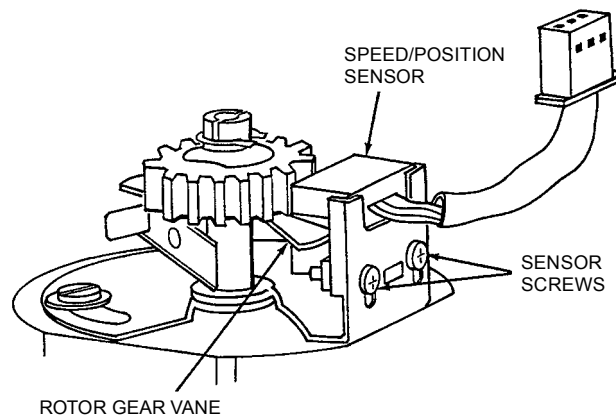

Figure 9.13
- H. Use one female ¼ inch spade terminal, one male ¼ inch spade terminal, and approximately 12 inches of yellow 18 AWG wire to fabricate a sensor point jumper. Connect sensor point jumper between the housing assembly (23) circuit board yellow lead and the contact point (14) terminal.
- J. Use one female ¼ inch spade terminal, one male ¼ inch spade terminal, and approximately 12 inches of white 18 AWG wire to fabricate a white coil wire jumper. Connect white coil wire jumper between the coil (21) white wire and the housing assembly (23) circuit board terminal (closest to the circuit board yellow lead).
- K. Connect the ten pin (sensor magneto) or eight pin (non-sensor magneto) connector of the T-300 SynchroLASAR® tool to the housing assembly (23) harness connector. Turn the T-300 control knob to the ON position.
- L. Adjust contact point assembly (14) to the position where the T-300 "SENSOR BKR PT " light (sensor magneto) or "NON-SENSOR BKR PT" light (non-sensor magneto) just comes on. Tighten the securing screw (16) to hold contact point assembly (14) in this position and torque to 18 - 20 in-lbs.
- M. Disconnect the T-300 SynchroLASAR® tool; remove jumper wires; and disconnect the coil (21) green lead from housing assembly (23) circuit board terminal.
9.12 INSTALL SPEED/POSITION SENSOR BRACKET (24) - SENSOR MAGNETOS ONLY
- A. Mount speed/position sensor (part of 23) on the inside of sensor bracket (21) and secure by inserting screws (25), and starwashers (26), first through the holes in the bracket and then through the sensor (See Figure 9.13). Secure screws (25) with nuts (27). Do not torque screws (25) until vane sensor clearance adjustment is done.
- B. Lay the magneto frame (8) on its right side to facilitate easy installation of the speed/position sensor bracket (24).
- C. Slide the speed/position sensor bracket (24) onto the rotor shaft (10).
- D. Install and temporarily tighten the screw with lockwasher (16), and flat washer (15) securing the speed/position sensor bracket (24) to the bearing cap assembly (11).
- A. Carefully rotate the rotor shaft (10) to check the alignment of the vane (17) as it passes through the speed/position sensor (part of 23).
- B. As required, loosen the screws (25) on the speed/position sensor bracket (24) to adjust the vertical location of the sensor. See Figure 9.13.